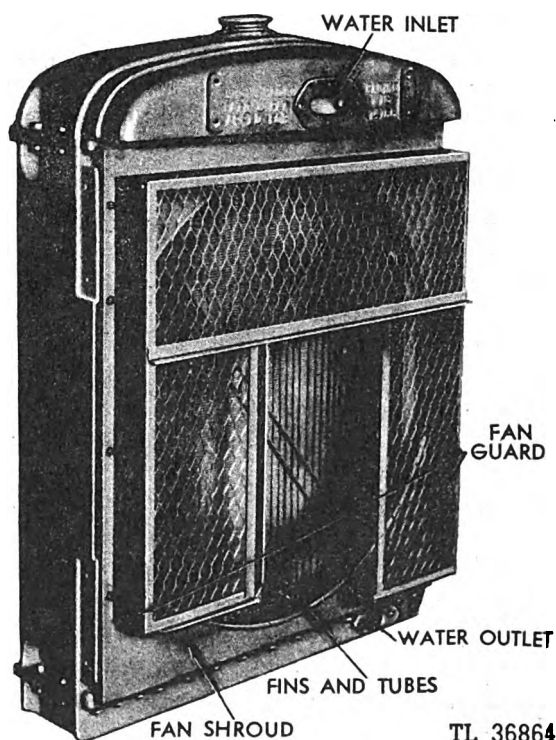

Fig. 212. Radiator
69. **Radiator.** The radiator core must be kept from corrosion and scale at all times. Use only clean, soft water in the cooling system. Where the use of hard water cannot be avoided, use a commercial water softener. With air pressure, blow out bugs or any leaves or lint, or any other obstructions that may have lodged between the fins in the core and the tubes. Straighten bent fins. (See Figure 212.)